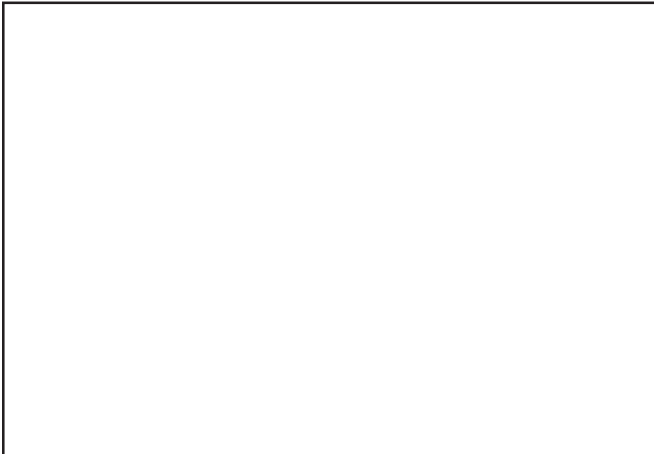

FIGURE 1 - FULL-ELECTRIC BED - 5410
1. Grasp the connector and position it so the locking tab is facing **DOWNWARD** (FIGURE 1).
2. Gently, push the connector into the appropriate slot on the junction box until it locks into place and an audible “click” is heard (FIGURE 1).
1. Push down on the end of the locking tab on the connector (FIGURE 1).
**FULL-ELECTRIC AND BARIATRIC BED OPERATION (FIGURE 1)**
4. Full-Electric beds use a six (6) function pendant for all bed operation.